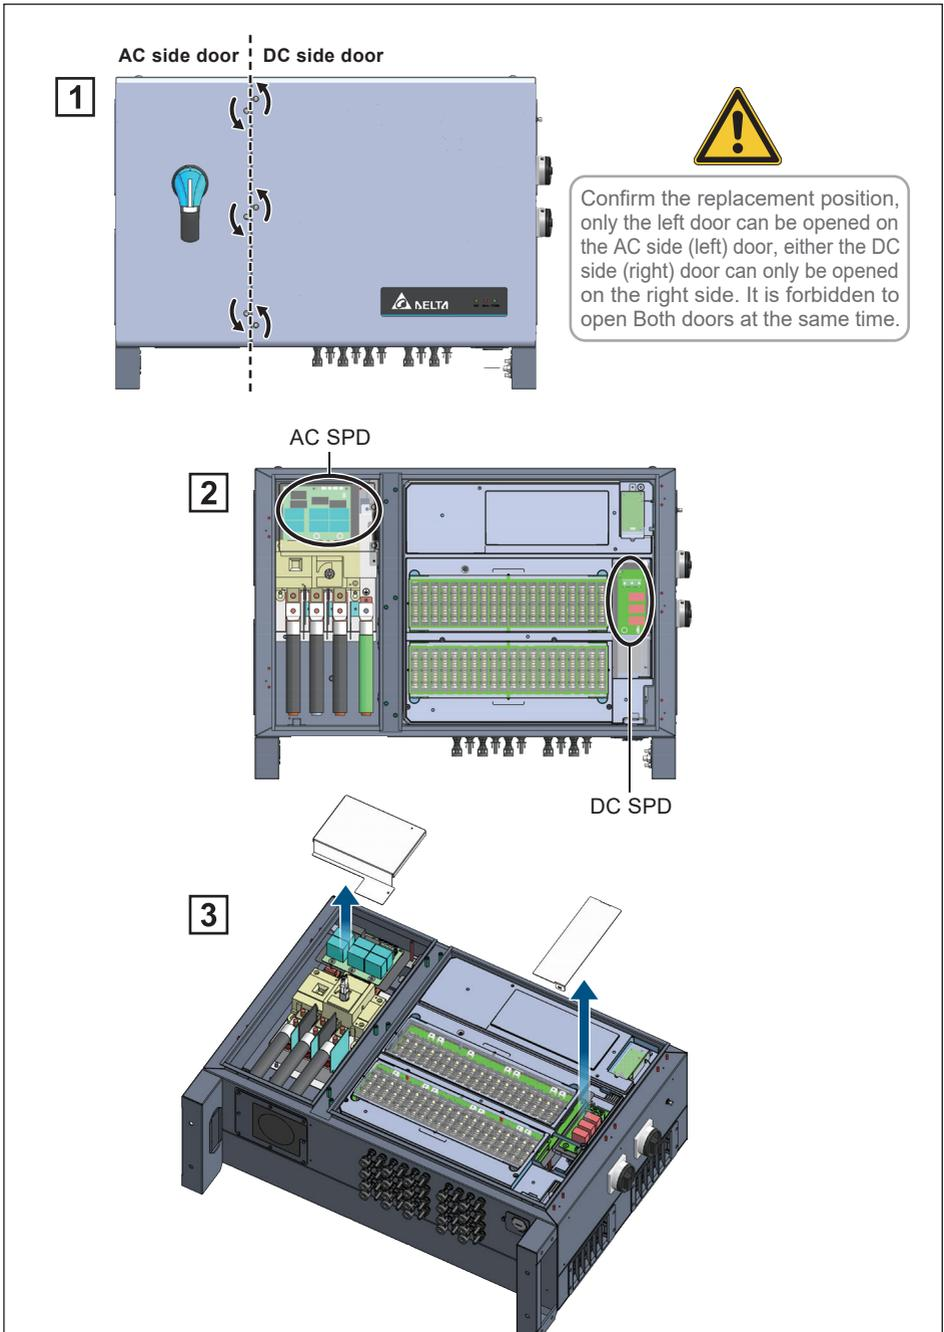

Figure 5-6: Steps of changing SPDs
The AC and DC SPD units are located as shown in **Figure 5-6**.
- **To remove the defective AC SPD (Figure 5-6)**